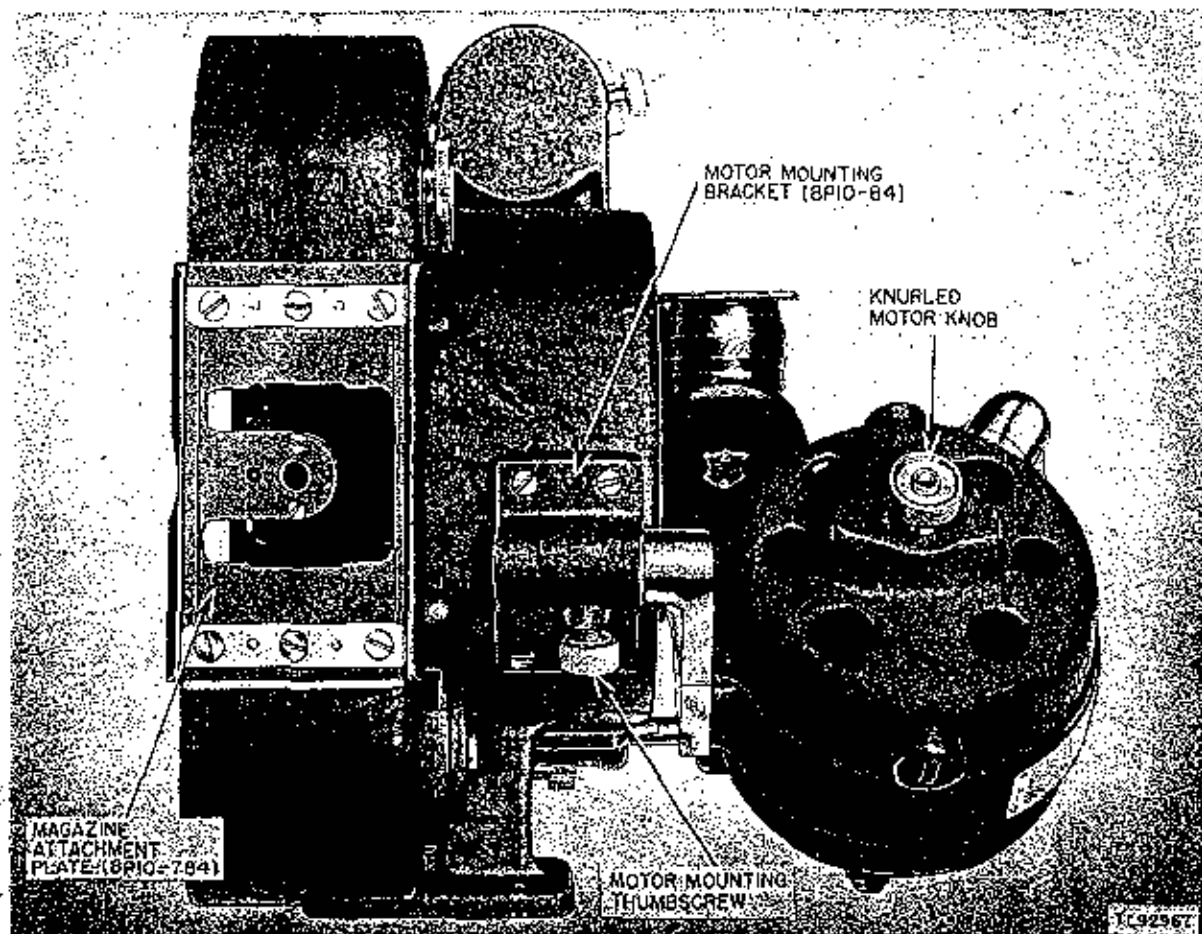

Figure 33. Camera PH-330-G, with electric motor attached, rear view.
(fig. 33), at the base of the motor mounting bracket (fig. 33), to allow passage of the motor mounting shaft.
c. Insert the motor mounting shaft on the upper part of the motor (fig. 33) into the socket of the motor mounting bracket.
The mounting of the magazine is a second stage in loading and threading the camera, and may be performed in daylight. To attach the magazine to the camera, first unscrew the magazine attachment plate cover (fig. 5) on the rear of the camera frame. Slip the magazine film loop into the camera, fitting the loop over and around the U-shaped portion of the magazine attachment plate (fig. 33). Bring the magazine into place against the attachment plate, with the magazine cover plates facing the same side as the camera door. Fasten the magazine firmly against the attachment plate by tightening the large knurled knob on the rear of the magazine (fig. 13). Insert one end of the spring driving belt (fig. 2 (13)) into the opening in the magazine belt pulley housing (fig. 5) and feed the belt over the pulley until it emerges at the other opening. Fasten both ends of the belt together securely, check the joined ends for
Threading with the large magazine (fig. 13) is essentially the same process as threading with the small magazine, except for the differences noted below. Open the camera door and pull back the gate arm (fig. 25), placing tension on the spring by hand-winding the motor, or turning the knurled knob on the back of the electric motor (fig. 33) until the shuttle teeth are in the lower and engaged position. Proceed to thread the loop of film from the magazine in the manner already described (par. 38). The upper loop, however, should be 10 sprocket holes instead of 9, and the lower loop should be 12 holes instead of 11. The additional sprocket hole in each case will be taken up by the tension of the magazine. Close the camera door. Note that the camera door latches actuate a plunger which opens the film light valves of the magazine when the door latches are turned to the CLOSED position. The film then may pass freely from the magazine to the camera and back. Conversely, the door latches in the OPEN position automatically lock the magazine light valves, eliminating stray light and film fog.